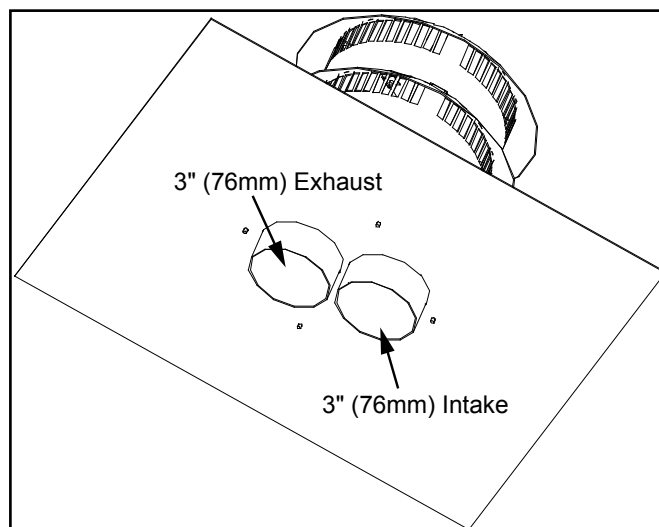
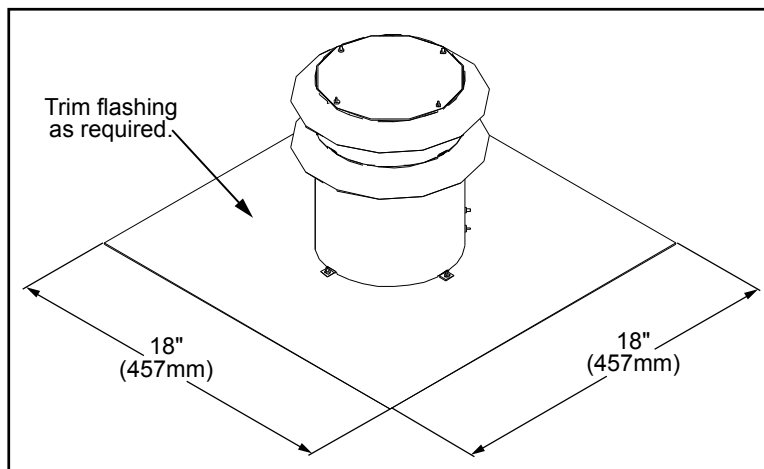

Figure 24: Generic Vent Cap Underside.
Figure 26: Generic Vent Cap Dimensions.
4. Most vent caps can be installed onto chimneys with flue openings up to 16" (406mm) x 16" (406mm) and the actual flashing is 18"x18" (refer to Figure 26). If the chimney is smaller the cap should be trimmed down and folded over.
5. Apply a bead of stove cement sealant to the top section of the Ø3" (76mm) exhaust vent collar plate. Slide the Ø3" (76mm) flex vent over the flue collar and secure with three (3) sheet metal screws evenly spaced.
6. Place a bead of high temperature silicone on the intake collar of the fireplace, slide the Ø3" (76mm) flex intake liner over the collar, secure the flex liner with three (3) sheet metal screws evenly spaced.
7. At the top of the chimney, apply a bead of stove cement sealant to the Ø3" (76mm) pipe of the exhaust vent terminal (refer to Figure 24). Slide the flex liner onto the vent terminal and secure with three (3) sheet metal screws evenly spaced.
8. Place a bead of high temperature silicone on the intake collar of the vent terminal (refer to Figure 24). Slide the Ø3" (76mm) flex intake liner over the collar, secure the flex liner with three (3) sheet metal screws evenly spaced.